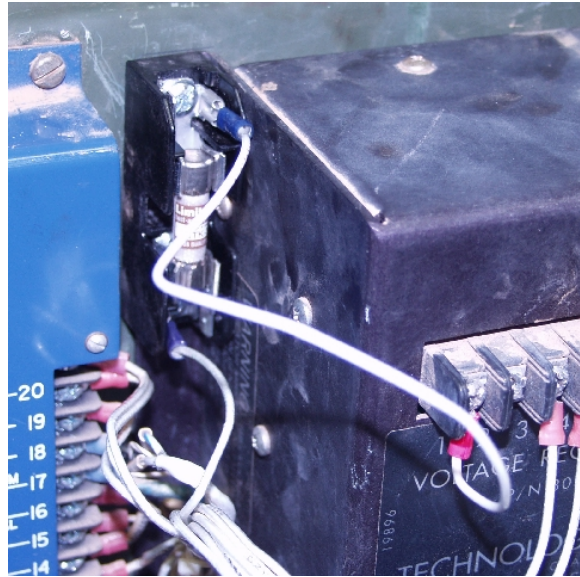

Figure 4 Top Wire Connection
9. Install the female quick disconnect end of the wire provided on the male quick disconnect terminal located at the top of the fuse holder. Connect the spade terminal end of the wire provided to terminal 1 of the voltage regulator (A1). (Figure 4.)